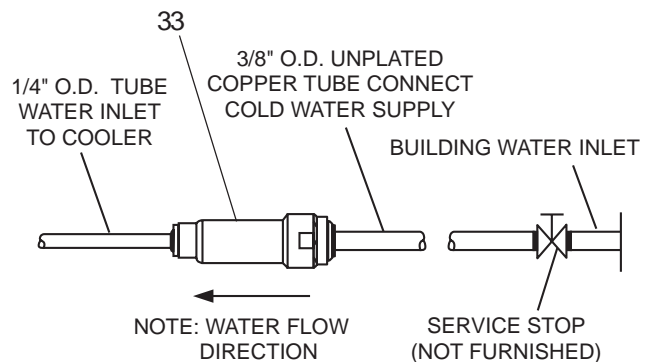

Figure 17 – Water Supply Connections
7. **Make water** supply connections from service stop to the 3/8" O.D. unplated copper tube coming out of the strainer. Turn on water supply and check for leaks (See Figure 17). Newly installed water supply line should be insulated after leak check is completed.